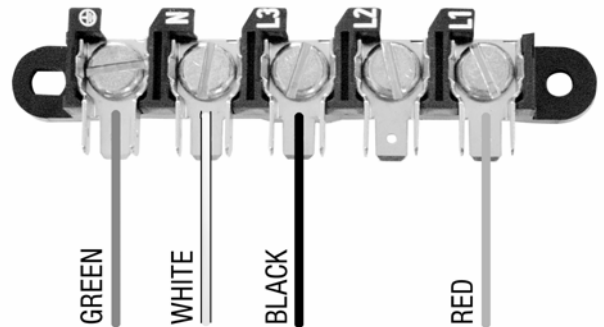

Fig. 7
- Attach the power cord ground conductor (green wire) to the ground terminal marked with the ground symbol. Tighten screw until ground conductor is secure. (See Fig. 7)
- Attach the power cord neutral conductor (white wire) to the neutral terminal. (marked N) Tighten screw until neutral conductor is secure. (See Fig. 7)
- Attach the power cord phase conductor (black wire) to the phase terminal (marked L3). Tighten screw until power conductor is secure. (See Fig. 7)
- Attach the power cord phase conductor (red wire) to the phase terminal (marked L1). Tighten screw until power conductor is secure. (See Fig. 7)